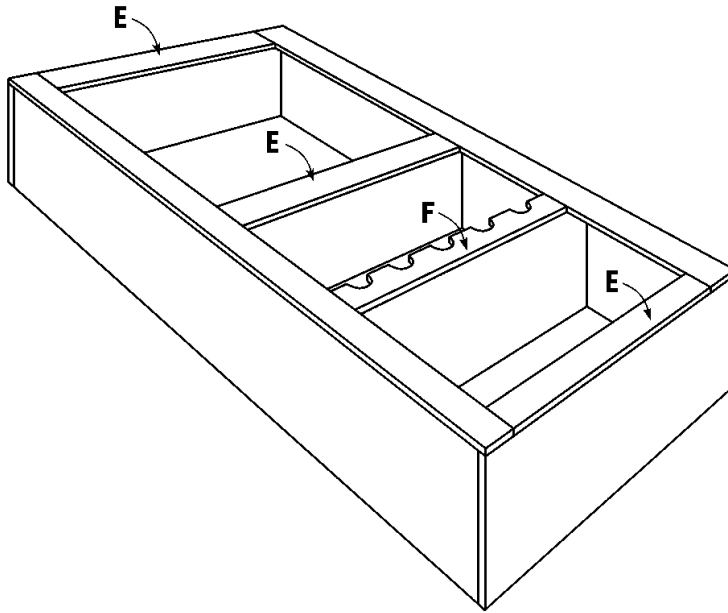

Figure 3
2. Repeat Step 1 to attach the remaining Vertical Trim (D) to the opposing Side (A).
3. Cut three Horizontal Trims (E) from 1 x 4 pine, each measuring 26-3/8 inches.
4. Apply glue to the meeting surfaces, and attach one Horizontal Trim (E) over the edge of the Top (B), as shown in *Figure 3*. Screw through the Horizontal Trim (E) into the edge of the top (B). Use 1-5/8" wood screws spaced every 5 inches.
5. Repeat Step 4 to attach the remaining two Horizontal Trims (E) flush with the upper edge of the Shelf (C) and flush with the lower edge of the bottom (B). See *Figure 3*.
6. Cut two Horizontal Wine Trims (F) from 1 x 4 pine, each measuring 26-3/8 inches.
(F) on the edge of the lower Shelf (C), as shown in *Figure 3*. Use 1-5/8" wood screws spaced about every 5 inches.
8. Repeat Step 7 to attach the second Horizontal Wine Trim (F) 5-1/2 inches above the first Horizontal Wine Trim (F). Apply glue to the meeting surfaces, and fit the second Horizontal Wine Trim (F) between the two Vertical Trims (D). Toenail through the Horizontal Wine Trim (F) into each of the Vertical Trims (D). Use 1-1/2" finishing nails.